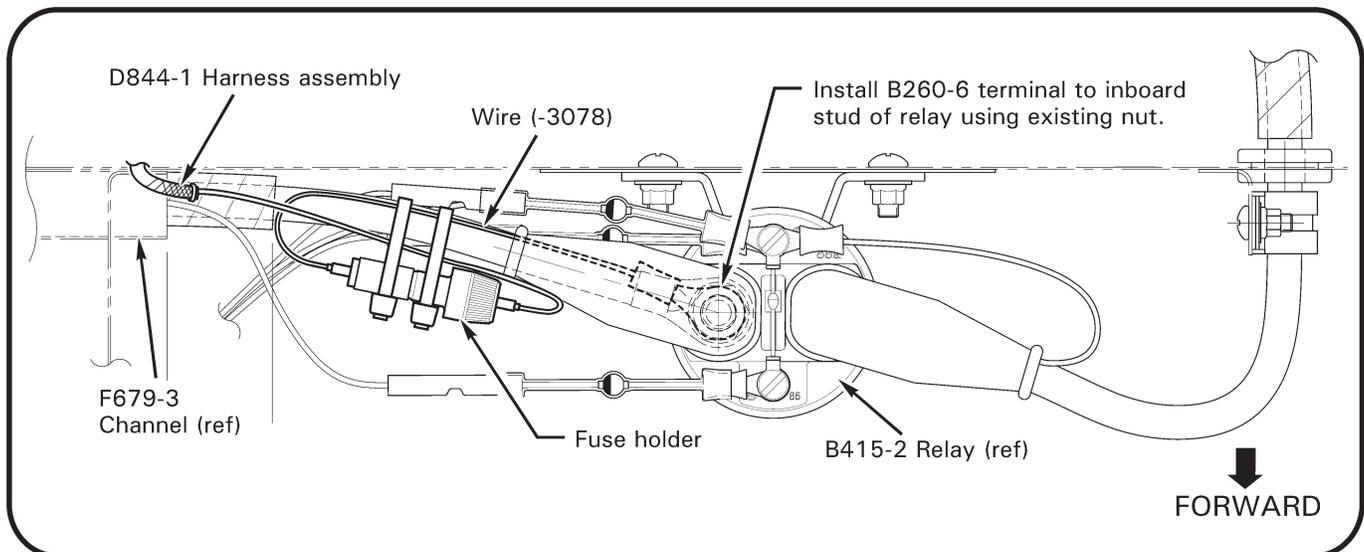

FIGURE 4A Installing & securing fuse holder
- c. Route wire (-3078) to B415-2 battery relay. Remove nipple from relay’s inboard stud. Insert wire (-3078) B260-6 terminal thru nipple and install to relay as shown in Figure 4A. Special torque nut per MM § 20-33 and torque stripe per MM Figure 5-1. Position nipple over stud.